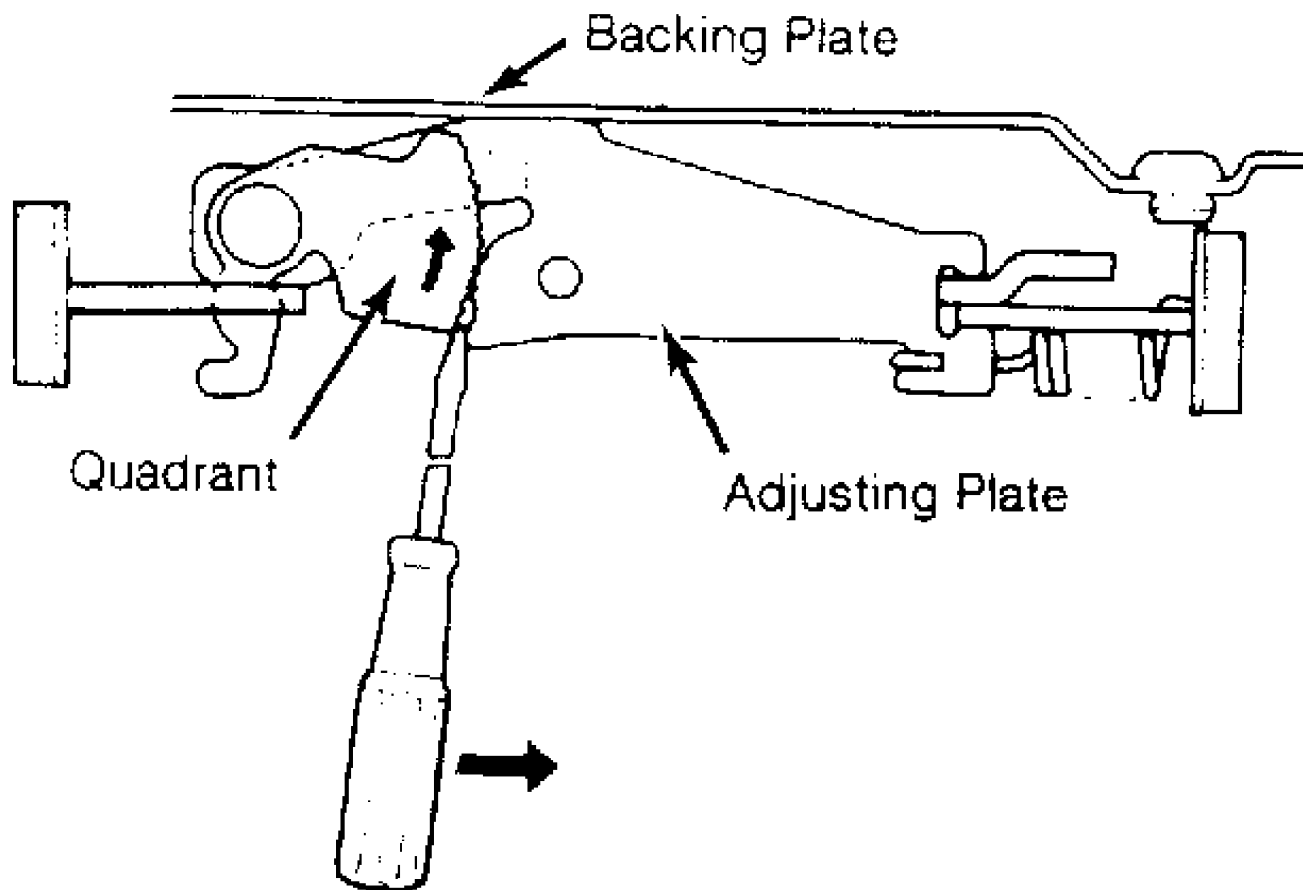

Fig. 2: Moving Quadrant on Rear Brake Adj. (MX-6 & 626)
1) Raise and support rear of vehicle. Remove wheel. Release parking brake. Remove lock nut from axle shaft. Remove brake drum. Insert screwdriver between adjusting plate and quadrant. Twist screwdriver to disengage teeth. See Fig. 2 or 3.